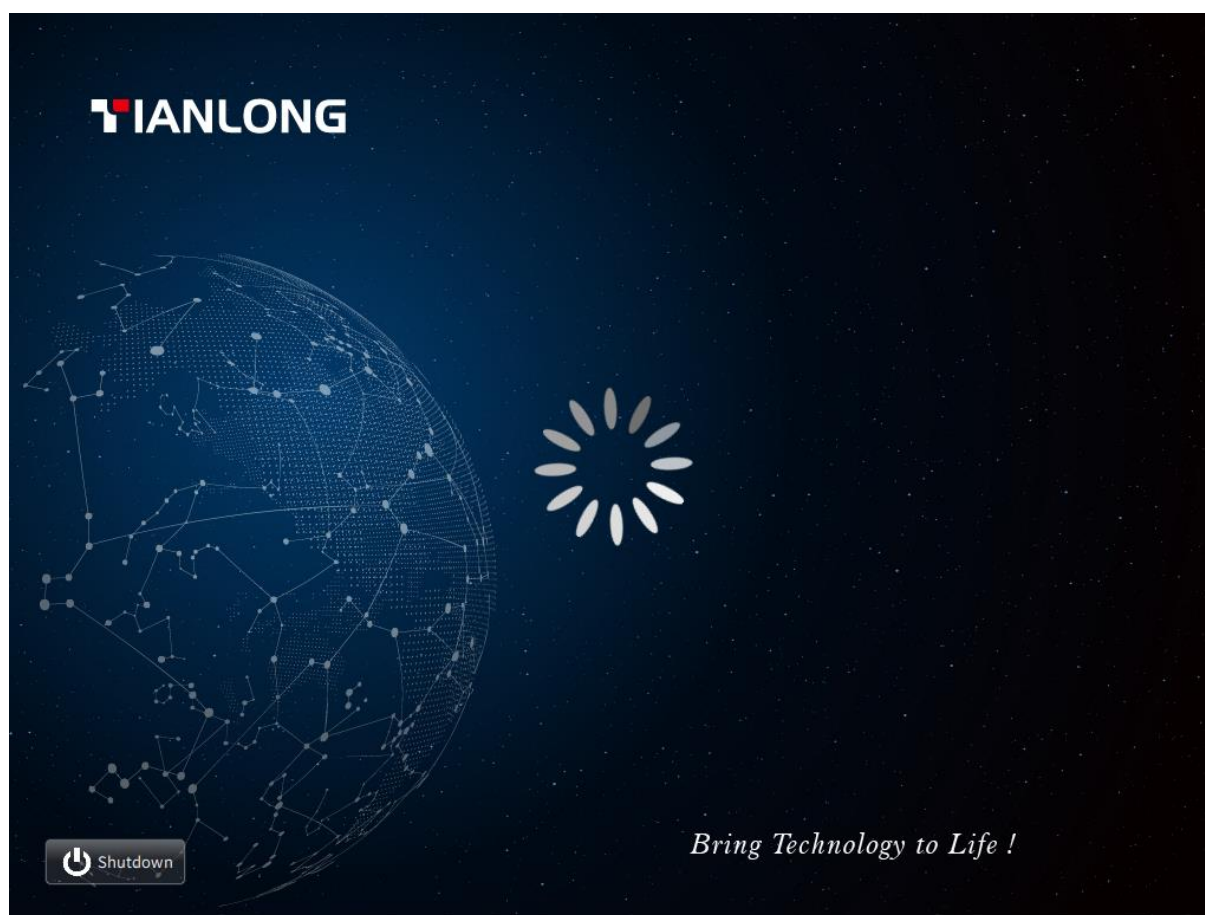

Figure 4-1. PANA System Software - Startup and Self-inspection Interface
**1st Step:** After startup the PANA Workstation, the touch screen of the master computer will display the startup and self-inspection interface, as shown in figure 4-1.